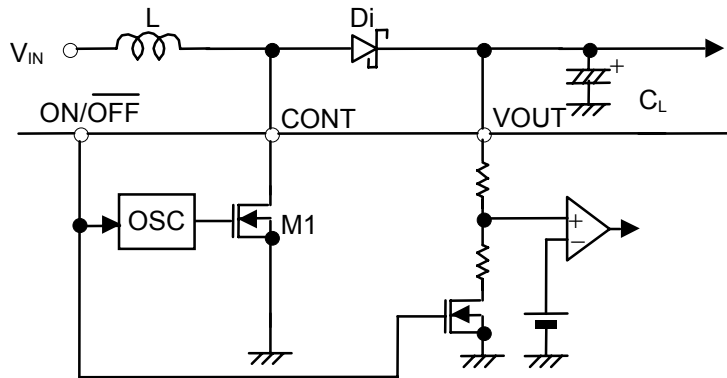

Figure 7. Step-Up Switching Regulator Circuit for Basic Equation
The following are the basic equations [(1) through (7)] of the step-up switching regulator (see **Figure 7**).